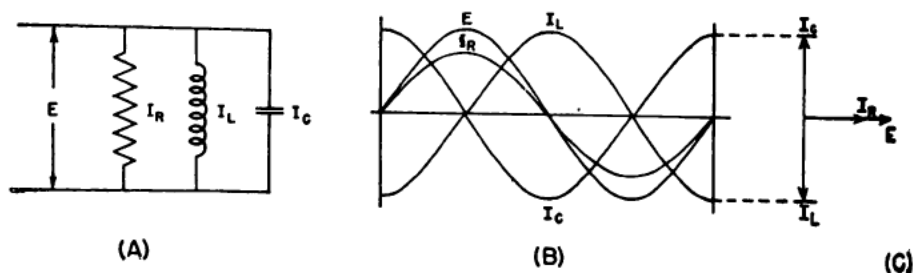

Figure 73.—Resonance in a parallel circuit.
A parallel circuit is in resonance when the resultant current is in phase with the line voltage. In this case, inductance current and capacitance current must be equal. Since they oppose each other, they will cancel, leaving only resistance current in the circuit. Look at figure 73.
Figure 73(A) is the circuit diagram. Figure 73(B) is the sine curve diagram and shows the relationship between voltage E , resistance current I_R , inductance current I_L , and capacitance current I_C . From figure 73(C), the vector diagram of the currents and voltage, you see that I_C leads I_L by 180° . I_C is equal to I_L and the two voltages cancel each other.